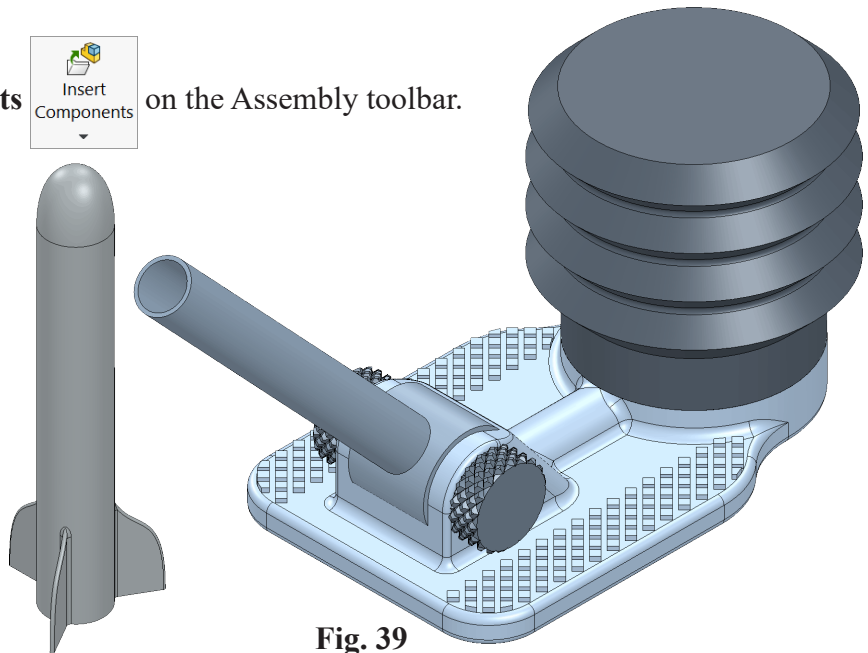

Fig. 39
Step 5. Click to place Rocket, **Fig. 39**.